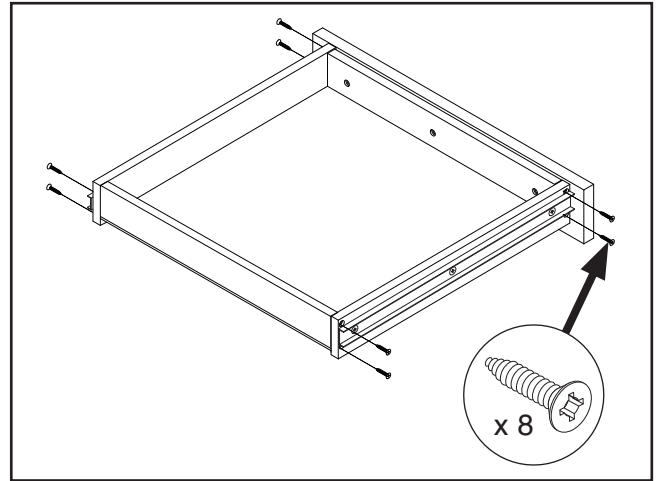

Figure 9. Securing left and right drawer panels to front and rear drawer panels.
8. Secure left and right drawer panels to back and front drawer panels with (8) #8 x 1¼" wood screws (see **Figure 9**).